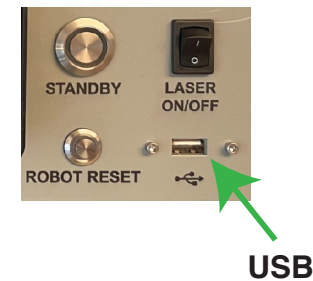

Fig. 3-9
- Connect the USB key into the front port at the front of the controller (see Fig. 3-9).